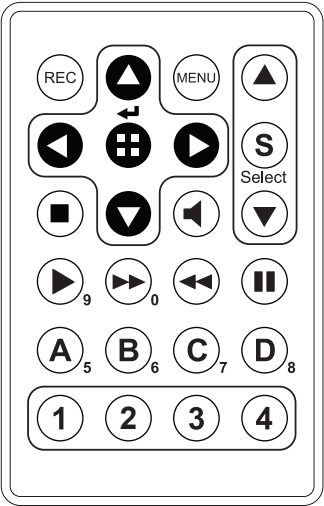

FIG. 13
- 1 Press 'Menu' on the remote. (FIG. 13)
- 1 Press '**Menu**' on the remote. (FIG. 13)